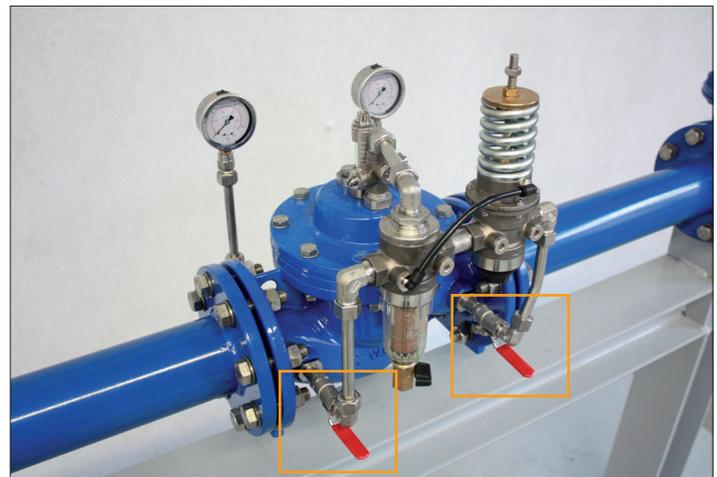

Figure 16: Open ball valves with hand levers running in parallel to the piping
- Put all ball valves at the control circuit in open position. The ball valves are open when the manual lever runs in parallel to the piping of the control circuit (see Figure 16). Make sure that